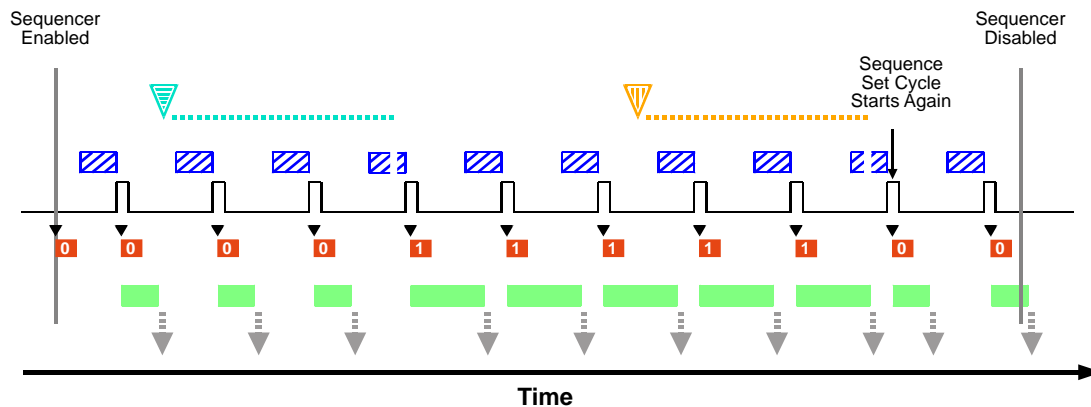

Fig. 57: Sequencer in Controlled Sequence Advance Mode with Disabled as the Sequence Control Source and Asynchronous Advance and Restart
The following use case (see also Figure 57) illustrates the operation of the sequencer in controlled sequence advance mode with Disabled selected as the sequence control source. Sequence set advance proceeds in ascending sequence set index numbers subject to asynchronous advance commands. After one sequence set cycle is complete, another one starts. Sequence set cycle restarts are subject to asynchronous restart commands.
- When the AsyncAdvance command becomes effective, the camera happens to be in the "waiting for frame start trigger" status. The parameter values of the next sequence set, i.e. of sequence set 1, are loaded into the active set. Note that the camera briefly exits the "waiting for frame start trigger" status while the parameter values of sequence set 1 are loaded into the active set (see also Figure 57).
- When the AsyncRestart command becomes effective, the camera happens to be in the "waiting for frame start trigger" status. The parameter values of sequence set 0 are loaded into the active set. Note that the camera briefly exits the "waiting for frame start trigger" status while the parameter values of sequence set 1 are loaded into the active set (see also Figure 57).